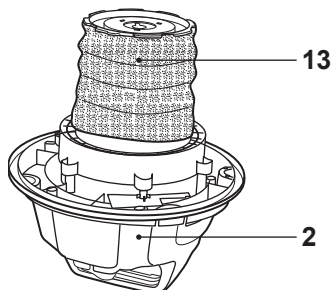

Fig. 18
Use the foam sleeve (13) during wet vacuuming operations (Fig. 18). Operating the product without the foam sleeve (13) can damage the motor unit.